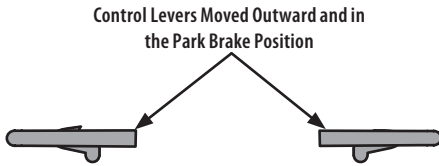

Fig. 19
- Operator should be sitting in the tractor seat with the lapbar drive control levers fully out and in the park brake position (Fig. 19). Refer to Practice Operation (initial use) for further instructions.